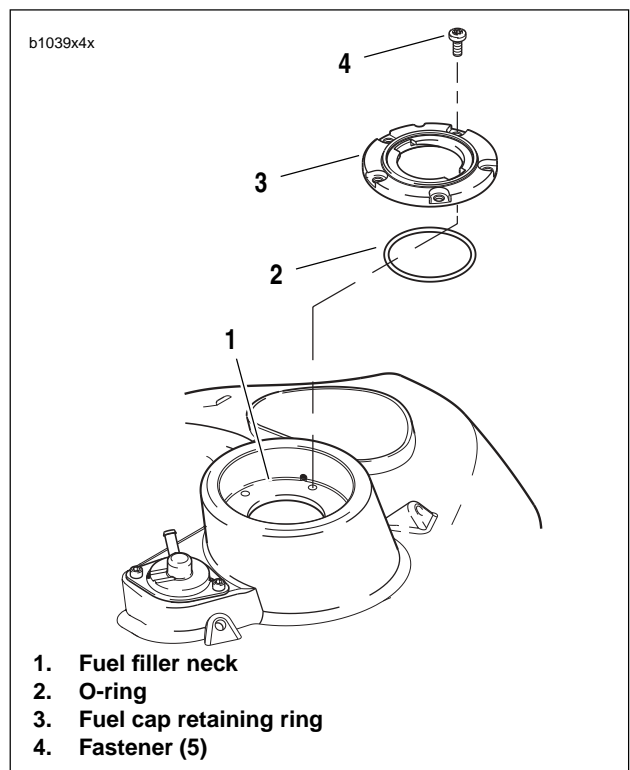

Figure 4-98. Fuel Cap Retaining Ring
3. See Figure 4-98. Remove fasteners (4) securing fuel cap retaining ring (3) to fuel filler neck (1).
4. Remove fuel cap retaining ring and o-ring (2). Discard o-ring.